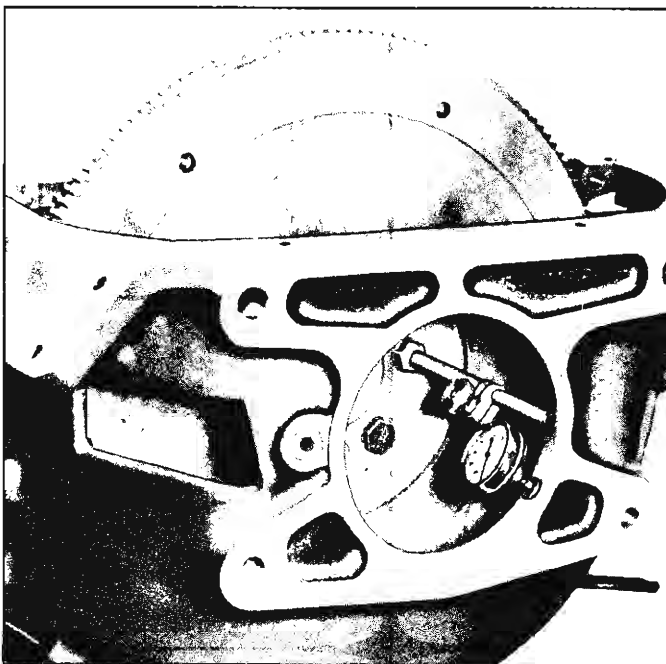

Fig. 109—Checking Bore Runout
3. Install Dial Indicator and position to read bore runout of the housing (fig. 109). Check runout by rotating crankshaft. This runout should not exceed .008".